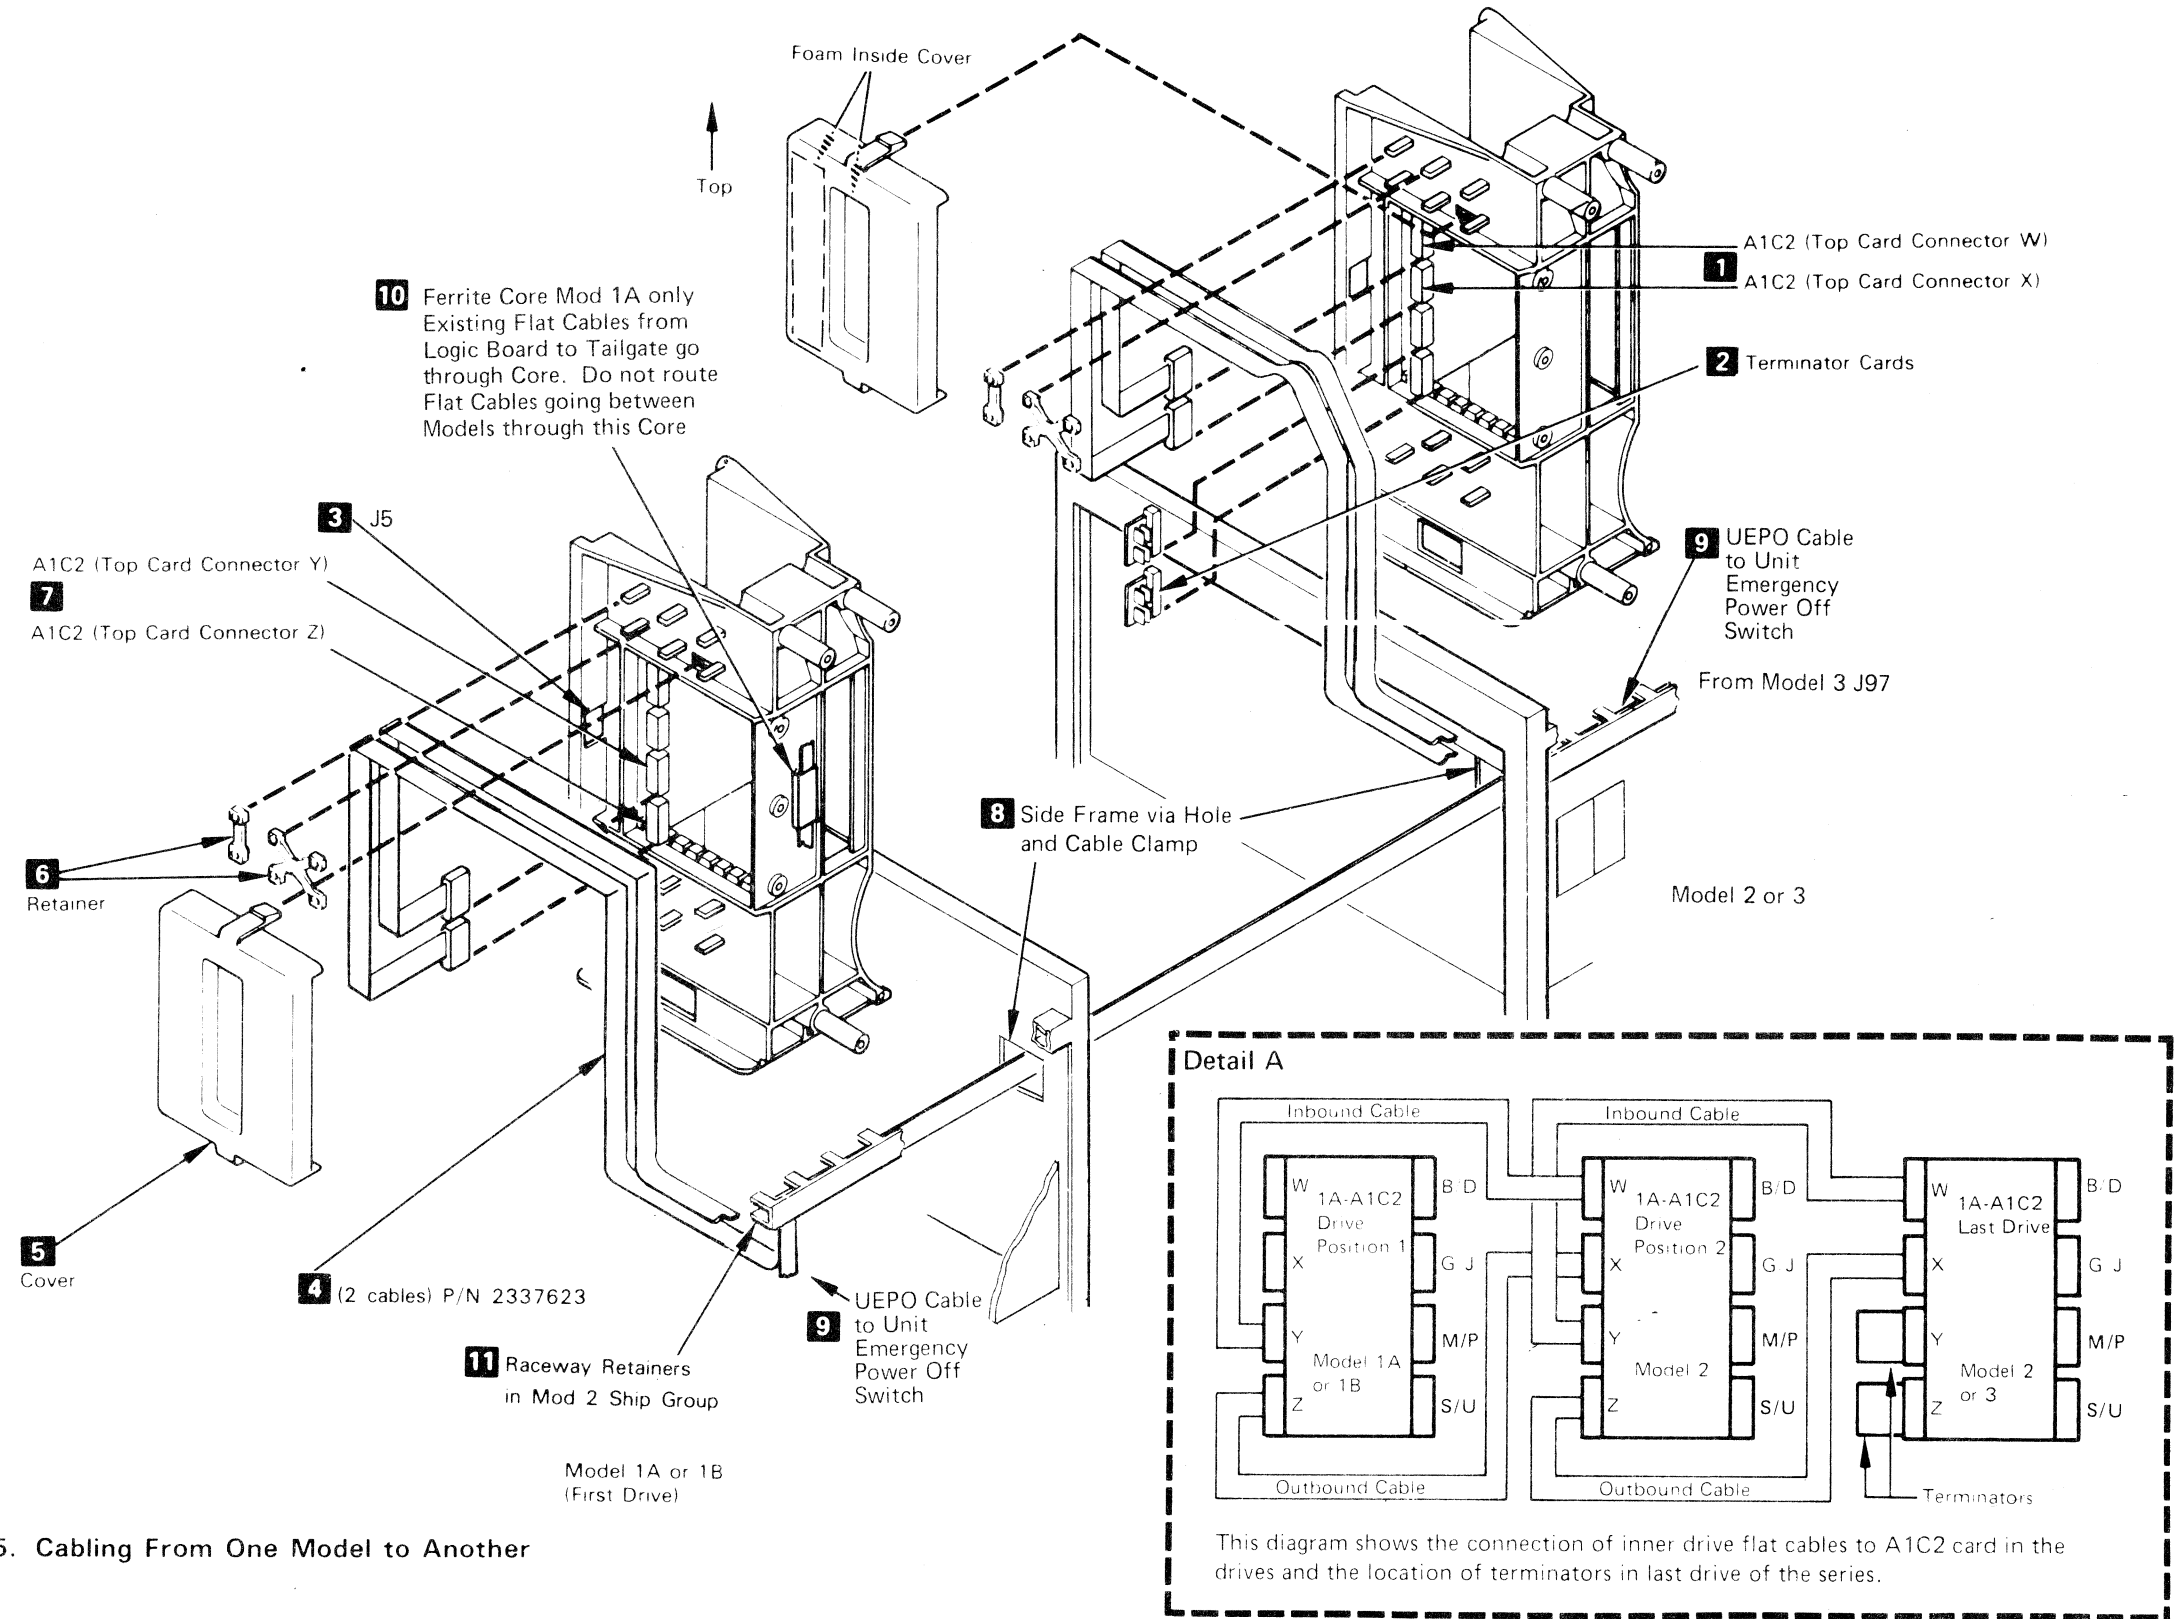

Figure 5. Cabling From One Model to Another
See Figure 5, **4** to route the flat cables from the Model 1A, 1B, or 3 to the Model 2.
- ☐ 14. Before installing these cables, the logic board covers (Figure 5, **5**) must be removed from all 8809s. Press on the latches at each end of the cover and pull off the cover.
- ☐ 15. The cable retainers (PN 811519 and PN 811427) and cable raceways (PN 2306491) (Figure 5, **11**) to be installed in the Model 1 are part of the Model 2 shipping group. Remove the paper backing from the cable raceways to expose the adhesive and install them in the Model 1, as shown in Figure 5, **11**. Install the cable raceways in the same position as those already installed in the Model 2.
- ☐ 17. Install the cables **4** and retainers **6** as shown in Figure 5. Hold each cable with fold marks toward you and fold inward along the fold marks. The cable must be routed through and clamped at the side frame by means of the hole and cable clamps as shown in (Figure 5, **8**). Do not route the cables through the ferrite core in the Model 1A (Figure 5, **10**). Remove J5 on Power Amplifier. (See **3**.) Route the cables under the existing flat cables.
- ☐ 18. Connect the two flat cables (Figure 5, **4**) from the Model 2 or Model 3 top card connector A1C2 W and X (Figure 5, **1**) to the unit to the left at the top card connector A1C2 Y and Z (Figure 5, **7**). See Detail A. Reinstall J5.
- 19. The unit emergency power off (UEPO) cables go from J97 of each 8809 Model 3 in the series to the Unit Emergency Switch in the Model 1A or 1B. Route these cables along the flat cable path (Figure 16, **7** or (Figure 5, **9**) and connect as shown below: